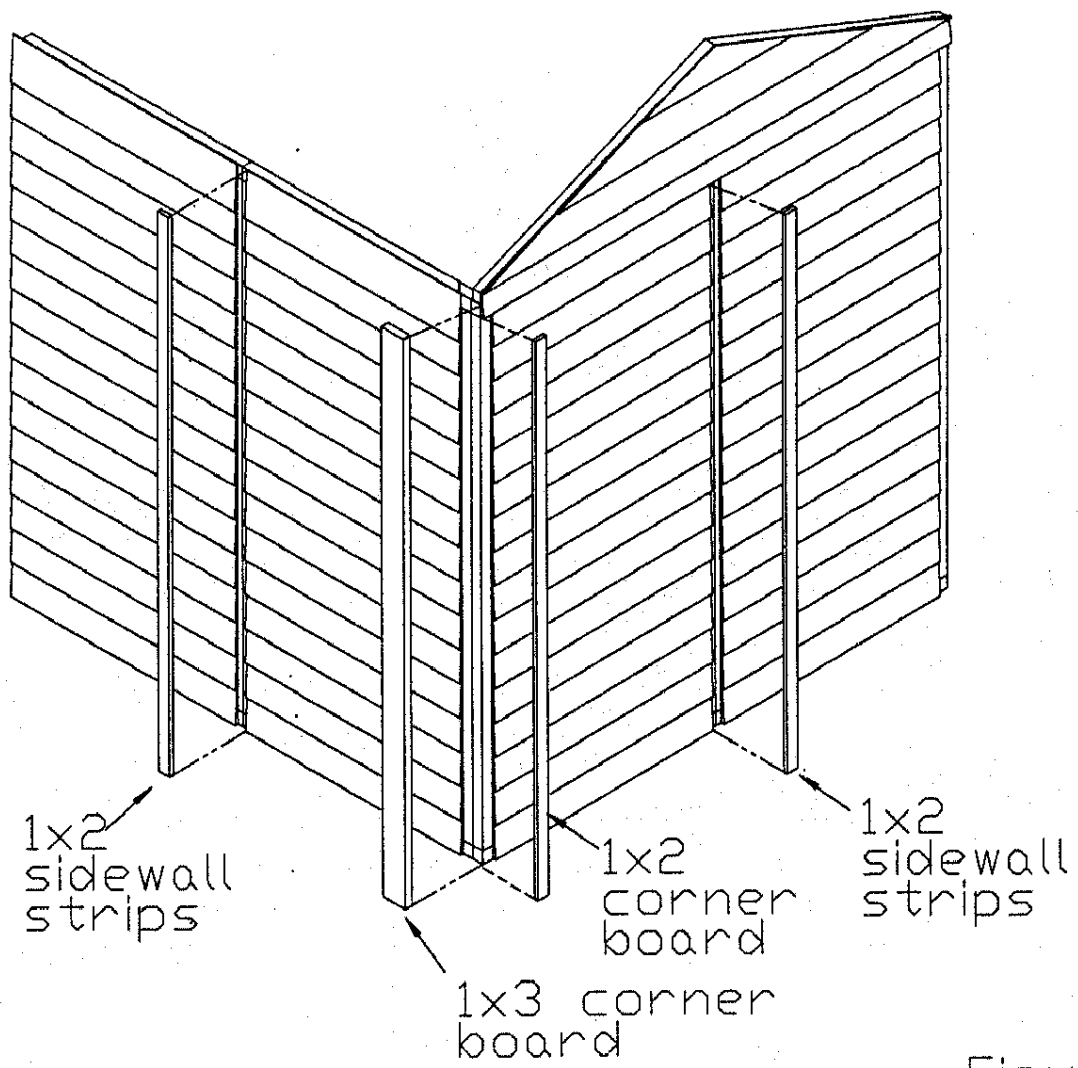

Figure E2
1. Attach soffits to the underside of the rafter using 1 3/4" finishing nails [Figure E2]. There are two per sidewall.
3. Attach all corner, center and gable wall trim using 1 3/4" finishing nails, as shown in Figure E2.